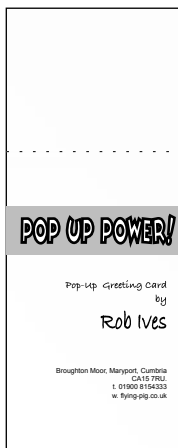

Figure 15-1: Design a logo label and get it professionally printed.
- ✓ A logo label like the one in Figure 15-1